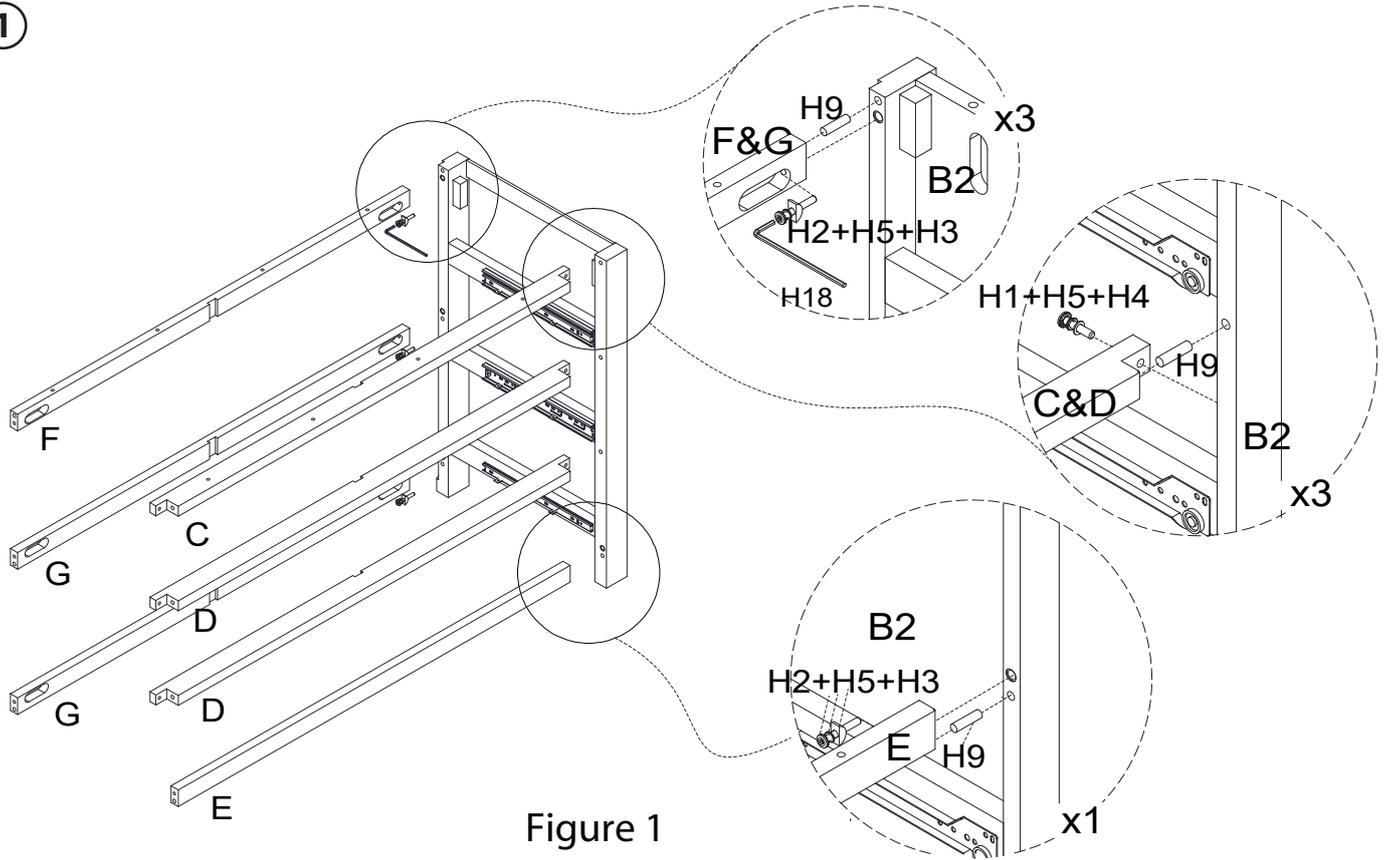

Figure 1
1. Working on a padded flat surface, attach Drawer Sides (R3&R4) to Drawer Back (R2) as Figure1